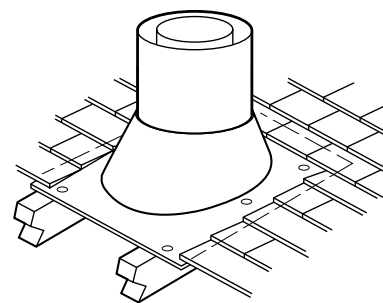

Figure 27
Step 7. Secure flashing by nailing along the perimeter into roof using 8d nails. If shingled roof, slide upper end and sides of roof flashing under shingles (trim if necessary), seal the top and both sides of the flashing to the roof with roof caulking. Cover nail heads with roof caulking (Figure 27).